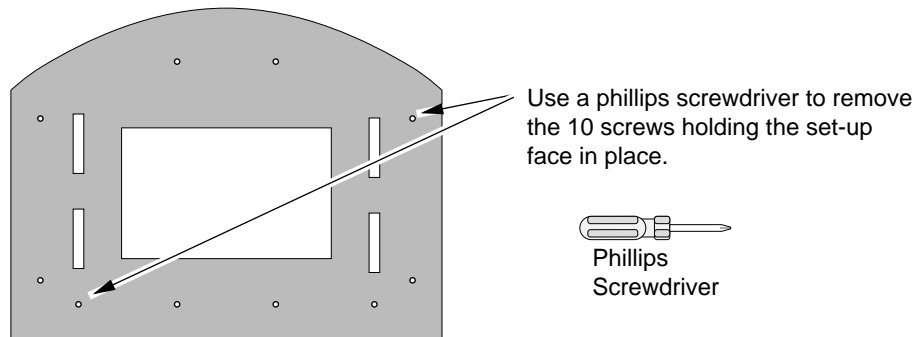

Figure 29
- Remove the set-up face using a phillips screwdriver (see Figure 29).